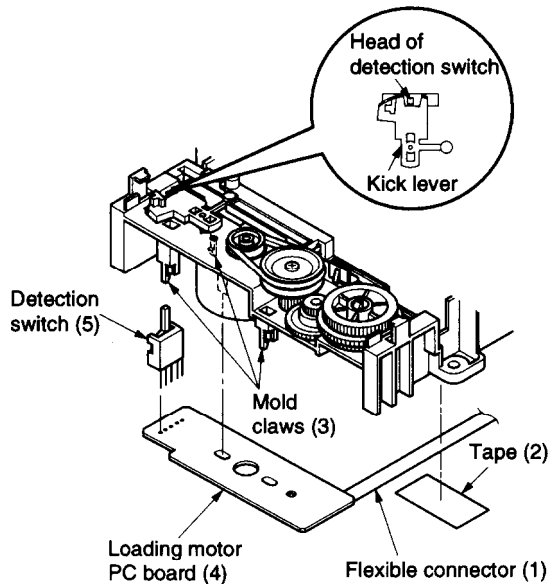
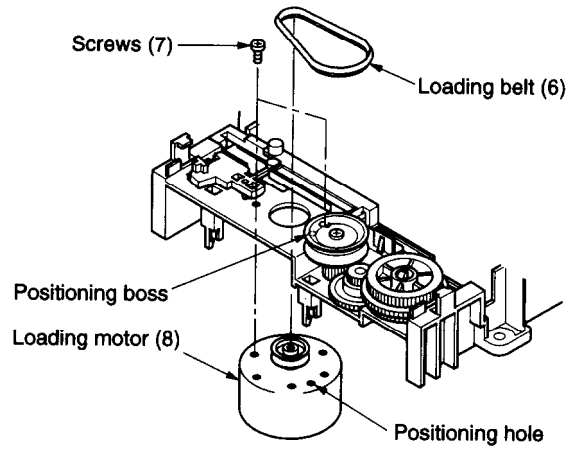

Fig. 4
Fig. 5
1. Peel off the tape (1) fixing the flexible connector (2).
3. Loosen three mold claws (3), and remove the loading motor PC board (4). (Refer to Fig. 4.)
4. Desolder, and remove the detection switch (5).
5. Remove the loading belt (6). (Refer to Fig. 5.)
6. Remove two screws (7), and remove the loading motor (8).
1. Align the positioning hole of a new loading motor (8) to the hole into which the chassis positioning boss is inserted, and fix the motor with two screws (7). (Refer to Fig. 5.)
- When mounting the loading motor PC board (4), insert the end of the detection switch (5) into the notch of the kick lever. (Refer to Fig. 4.)
- When mounting the loading belt (6), take care not to twist the belt or touch grease.
- Be sure to open the molded claws (3) manually when mounting the loading motor PC board (4).